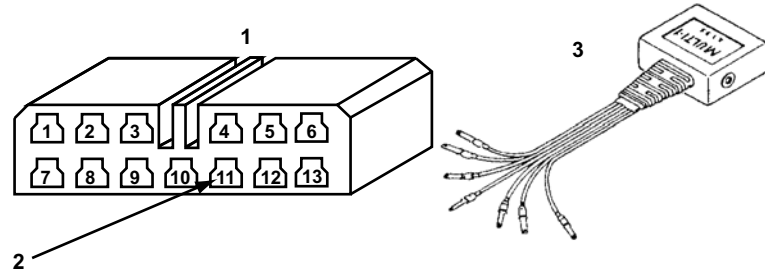

Figure 15-26 13-pin Check connector
- a. If the Check connector is 13-pin, connect the blue wire of the MULTI-1 adapter to pin 11 of the Check connector (Figure 15-26).